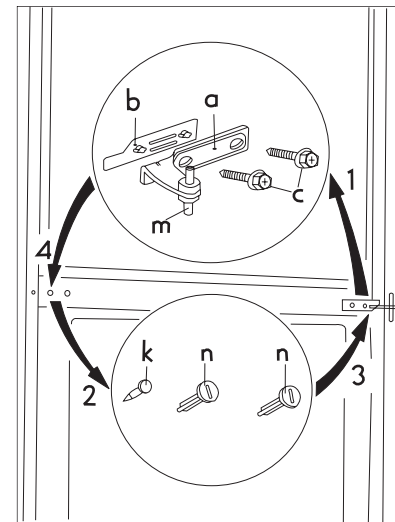

fig. 2.
- Open the doors and dismantle the double door hinge (a,b) by removing the screws (2 pieces) (c). (fig.2)
- Take off the double door hinge (a,b,c) by gradually removing it from the cabinet, slightly tilting both doors. Do not forget to remove the plastic spacer (b) under the hinge. (fig.2)
- Remove the covering nails (3 pieces) (n,k) of the double door holder on the left side and put them to the other side. (fig.2)
- Fit the pin of the double door hinge (m) into the left drill of the freezer door. (fig.2)